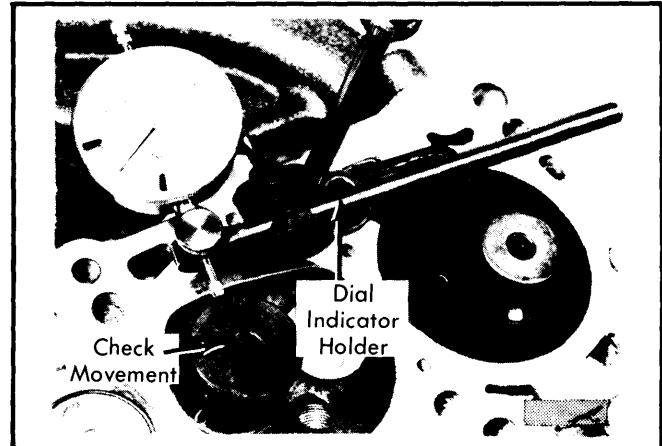

Fig. 2 Checking Valve Guide for Wear
1) With head disassembled, insert new valve and check for wear with dial indicator. See Fig. 2. If wear exceeds .039" (1.0 mm) for intake, or .051" (1.3 mm) for exhaust valve, guides should be replaced.